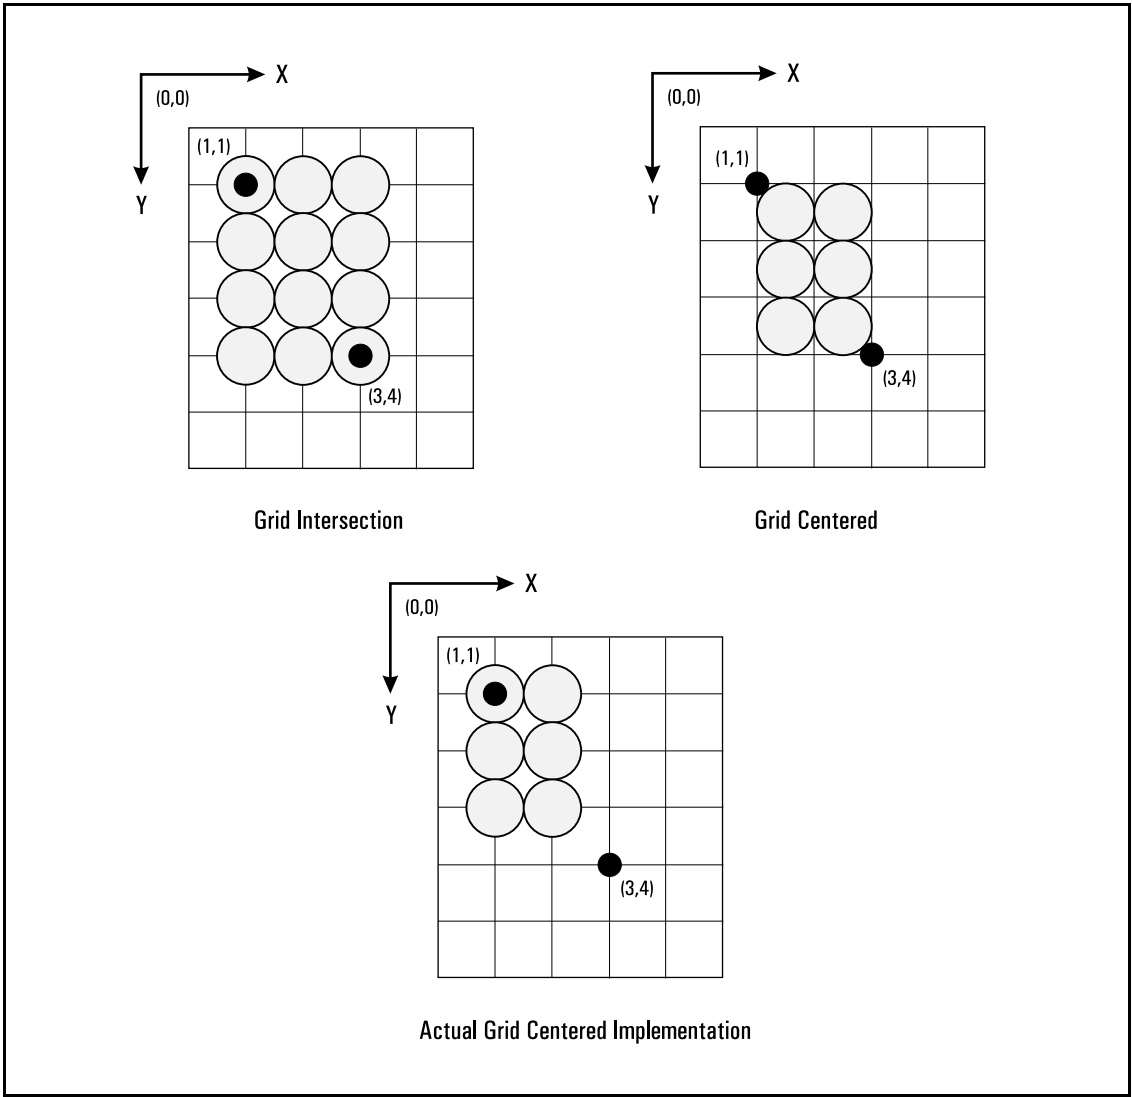

Figure 7-1. Pixel Placement
- 0 grid intersection; device draws pixels centered at grid intersections (see Figure 7-1).
- 1 grid centered; device draws pixels centered inside the boxes created by the grid (see Figure 7-1).